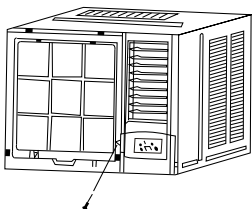

Fig. 3
- 1 Remove fixing screws from the frame (See Fig.3). Screws can be in different positions of the frame for different models, usually there are 2 screws at the rear of the larger units and one screw at the mid front right. Smaller units have less screws.